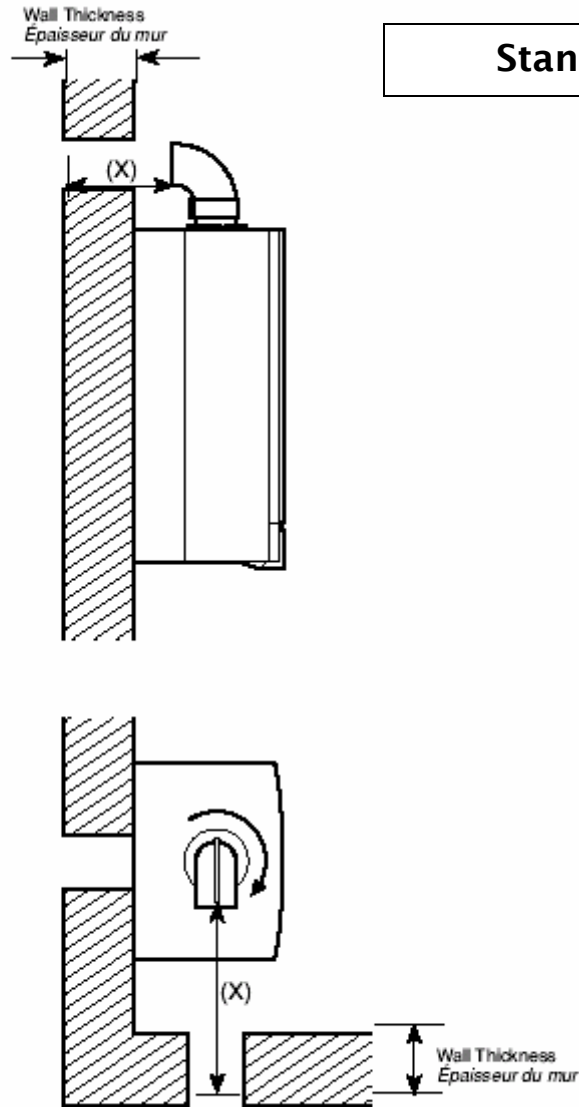

Fig. 3
With the boiler in place on the wall, measure the distance from the face of the flue elbow to the outside of the wall (X) fig.3. Transfer this measurement onto the outside air duct. Take this measurement from a spot about ½ inch back from the terminal fixing screw. Do this so that if you ever need to remove the termination cap you can access the screws.